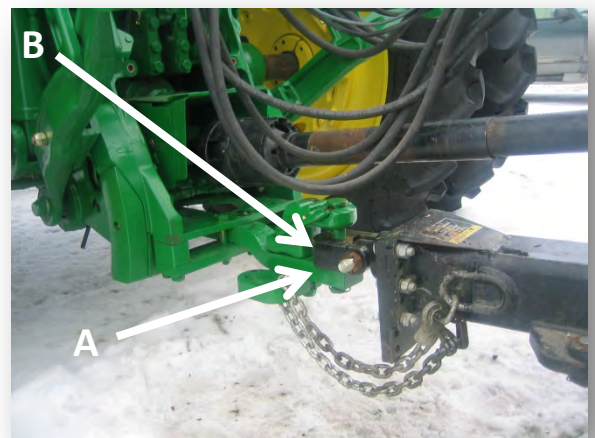

Figure 19: Attaching the Harvester to the Tractor Drawbar
1. Connect all hydraulic lines to tractor as shown in Figure 19.